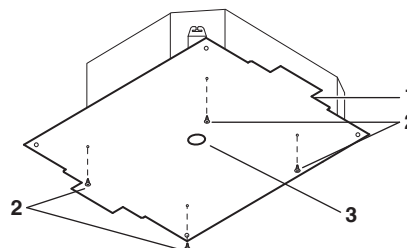

Fig. 8
- (2) Fix the paper pattern for installation. (For new ceilings only.)
- After cutting of the printing pattern for installation from packing, attach the paper pattern for installation to the unit with the attached screws as shown in Fig. 8.